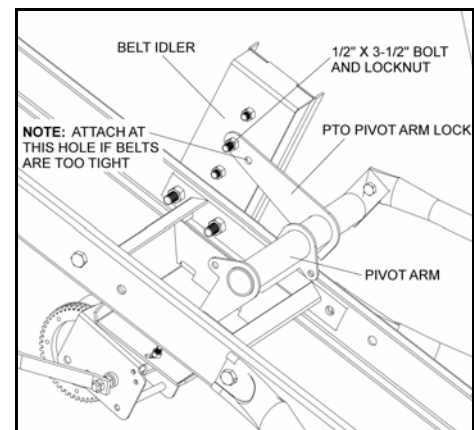

Figure 3.49
17. Install PTO pivot arm lock by replacing bolt on belt idler with a 1/2" x 3-1/2" bolt and attaching PTO pivot arm lock through the hole closest to the end (see Figure 3.49).
Note: *The belt adjustment may be unable to provide enough slack in the belts to install them. If this is the case, adjust the PTO pivot arm lock by securing it through the inner hole (see Figure 3.49).*